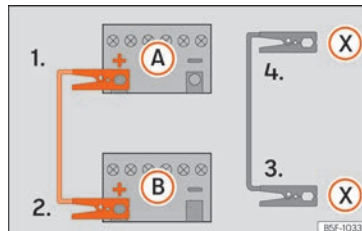

Fig. 83 Diagram of connections for vehicles with Start Stop system
- 4b. *In vehicles with a Start-stop system:* connect one end of the *black* jump lead (X) to a suitable ground terminal, to a solid piece of metal in the engine block, or to the engine block itself »» Fig. 83. »
- Connect the other end of the *black* jump lead (X) to a solid metal component bolted to the engine block or to the engine block itself of the vehicle with the flat battery. Do not connect it to a point near the battery (A).